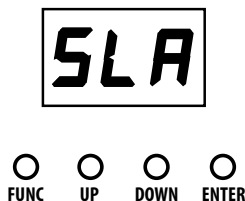

Fig.7
- Press the button FUNC so many times until the display shows [SLA] (fig.7).